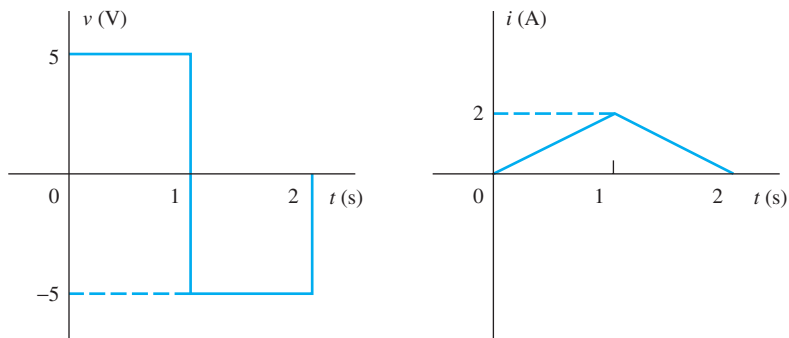

FIGURE P2.57 Voltage and current waveforms.
2.57 (H) The voltage and the current across an electrical device are shown in Figure P2.57. The voltage and the current are associated in their direction. Draw the waveform of the power absorbed by the device and compute the energy consumed during the time interval $[0, 2]$.